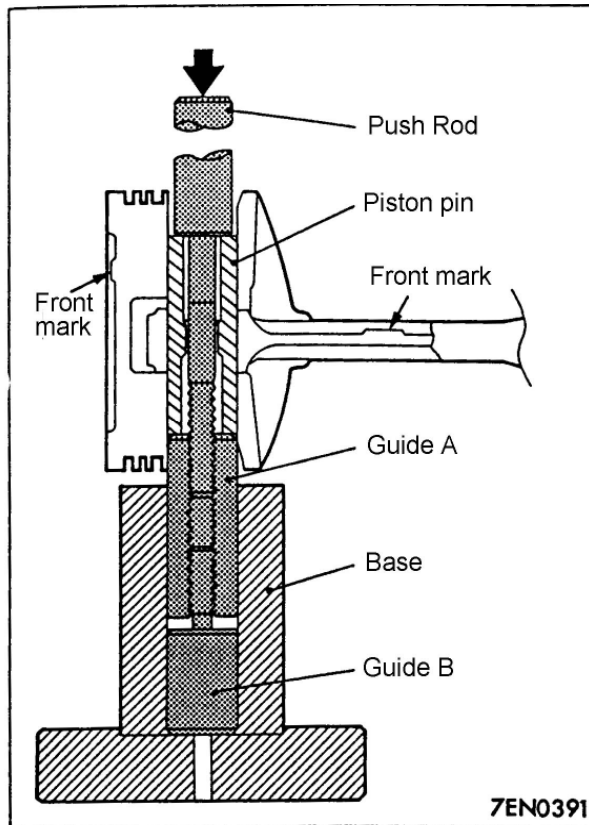

Fig.4-49
- h Mount the piston and connecting rod on the piston pin which setting base (special tool) with the piston's front mark pointing upward, see Fig.4-49.